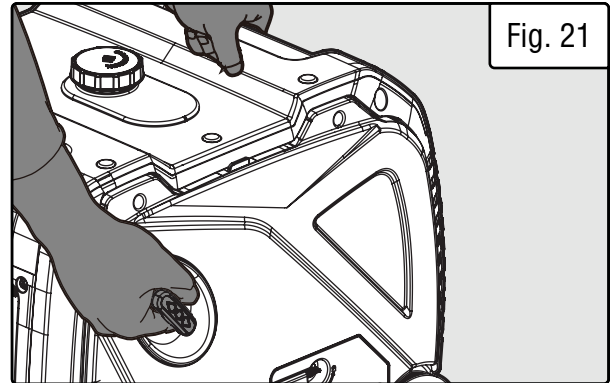

Fig. 21
7. Pull the recoil starter handle slowly until a slight resistance is felt, then pull quickly to start the engine. Return cord gently into the recoil starter. Never allow the cord to snap back (Fig. 21).